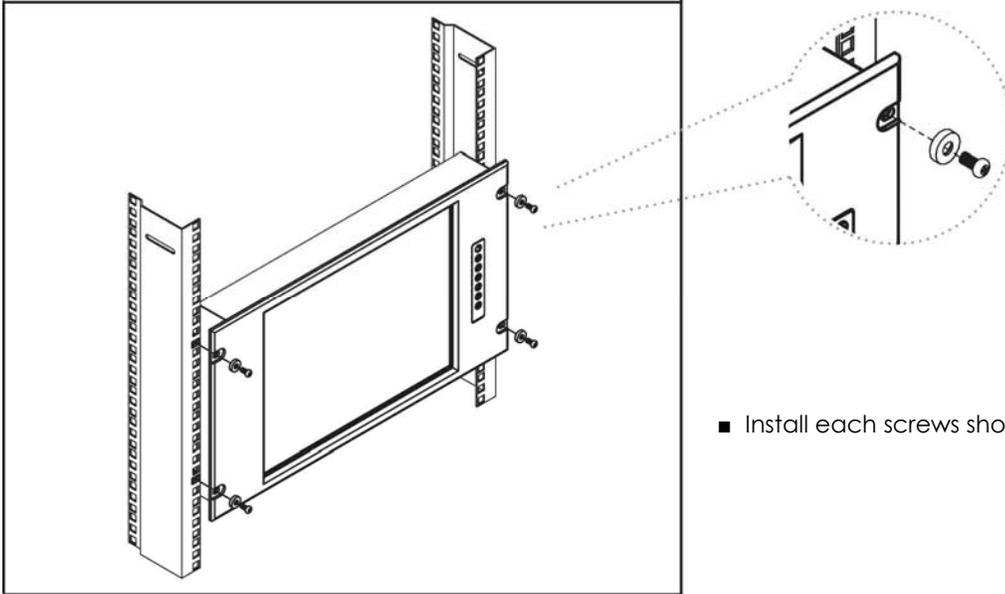

Figure 10.
- Pull and hold the black arrow button on either side of the LCD keyboard drawer to unlock. (shown in **Figure 10**).
- Install each screws shown in **Figure 10**.